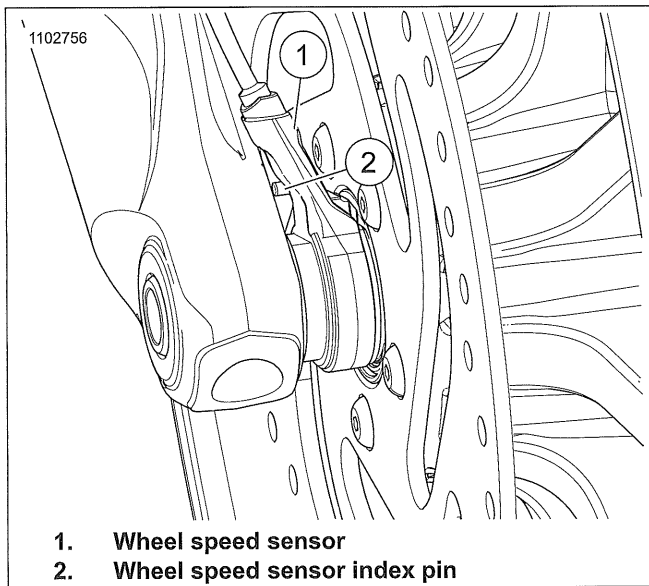

Figure 3-4. Front Wheel Speed Sensor Index Pin (ABS equipped)
See Figure 3-4. Position wheel speed sensor (1) with index pin (2) contacting fork.